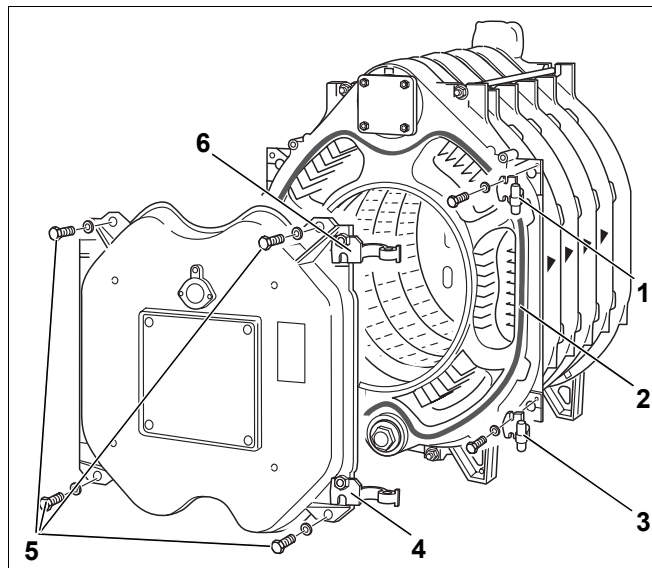

Fig. 26 Hooking on the burner door
Both hinges are fitted at the factory (Fig. 26, **Item 4 & 6**) to the r.h. side of the burner door. To convert to l.h. hinges, fit the hinge parts to the l.h. side of the burner door.
- Secure each hinge pin (Fig. 26, **Item 1 & 3**) with 2 No. M 12 x 50 screws on the front section. Fig. 26 shows this as r.h. closing. Fit the hinge pins to the l.h. side for l.h. closing.
- Stick sealing cord (18 mm dia.) into the front section using adhesive. Position the butt ends of the gasket string on the side of the section (Fig. 26, **Item 2**).
- Close the burner door and secure with 4 screws (M16 x 140) (Fig. 26, **Item 5**). Tighten the screws alternately in a cross pattern.